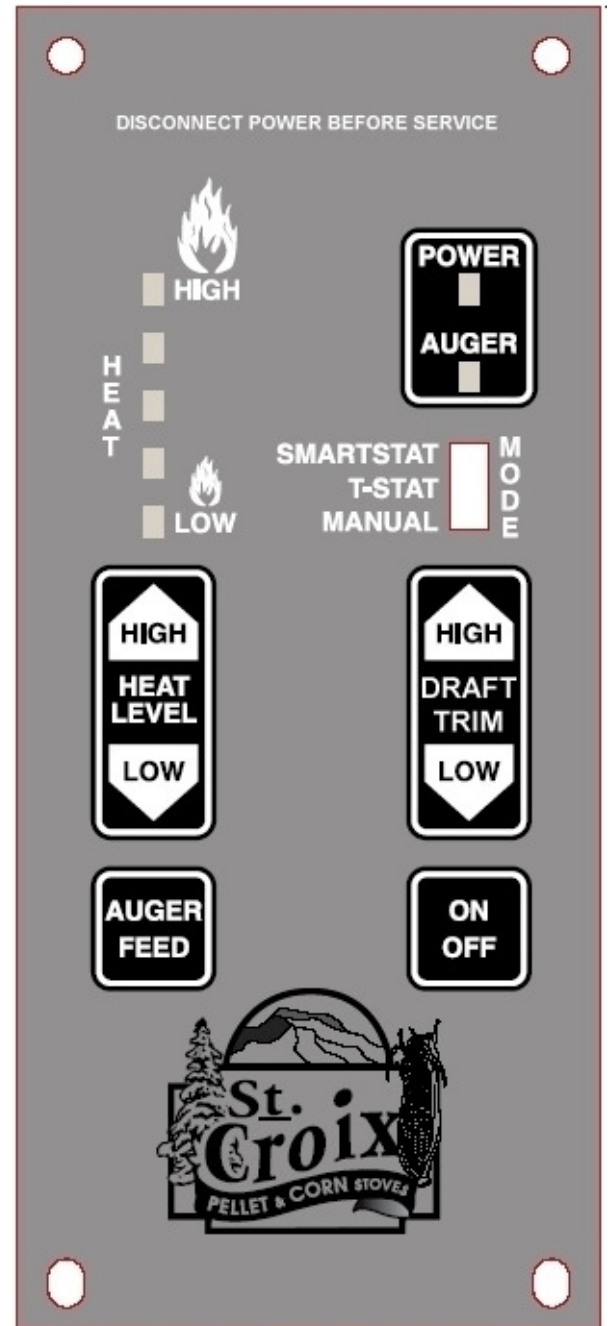

Figure 23
A closer look at the Control Board to the right in figure 23 will explain how the board works. There are essentially 4 buttons on the control board. Two of these buttons, the **Heat Level** and **Draft Trim** Buttons, have a High/Low side to advance these settings up or down. There is a slide switch that controls the Thermostat Mode and an LED Light bar that indicates which of the 5 Heat Settings the Stove is running on.
Shutting The Stove Off *(Refer to Figure 23)*
The #2 LED, #3 LED and #4 LED lights on the LED Light bar (*See figure 23*) will flash to give a diagnostic code to help in diagnosing problems that may occur.
1. The **Proof of Fire** switch. This switch will sense the temperature of the Exhaust rising during start up. If the Exhaust temperature does not reach 110 degrees F, or if, during use, the temperature drops below 110 degrees F, the Auger will quit feeding fuel and the drum will start rotating until the Stove completes the safety shutdown. The #3 LED will start blinking. (*See Figure 23 on Page 36*)